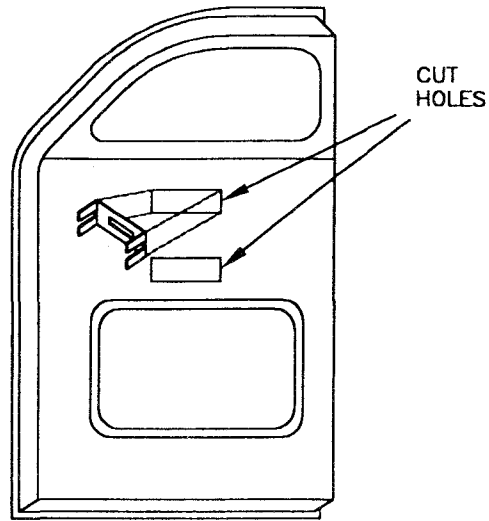
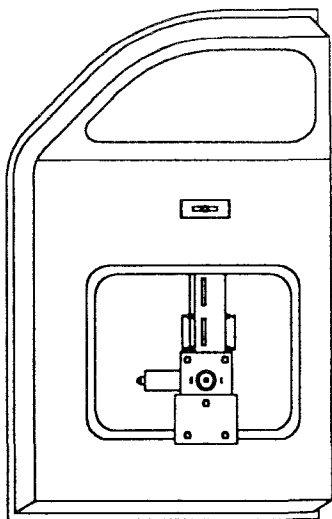

Fig 5
Fig 6
7. Use adjustable mounting bracket as a guide to mark on inner door, then cut holes in inner door to fit adjustable mounting brackets as shown in (Fig 5). (Fig 1-A) Shows how to use two pieces of flat stock to provide a suitable mounting surface for lower universal mounting bracket in a door that has a big opening. (Fig 6) Shows alternative lower mount that is easily made (not provided).